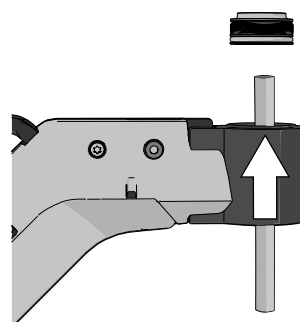

Figure 441. Remove the friction brake.
(i) This step does only apply if the wheelchair is equipped with a later revision of the friction brake (see Figure 441).
- i** This step does only apply if the wheelchair is equipped with a later revision of the friction brake (see Figure 441).